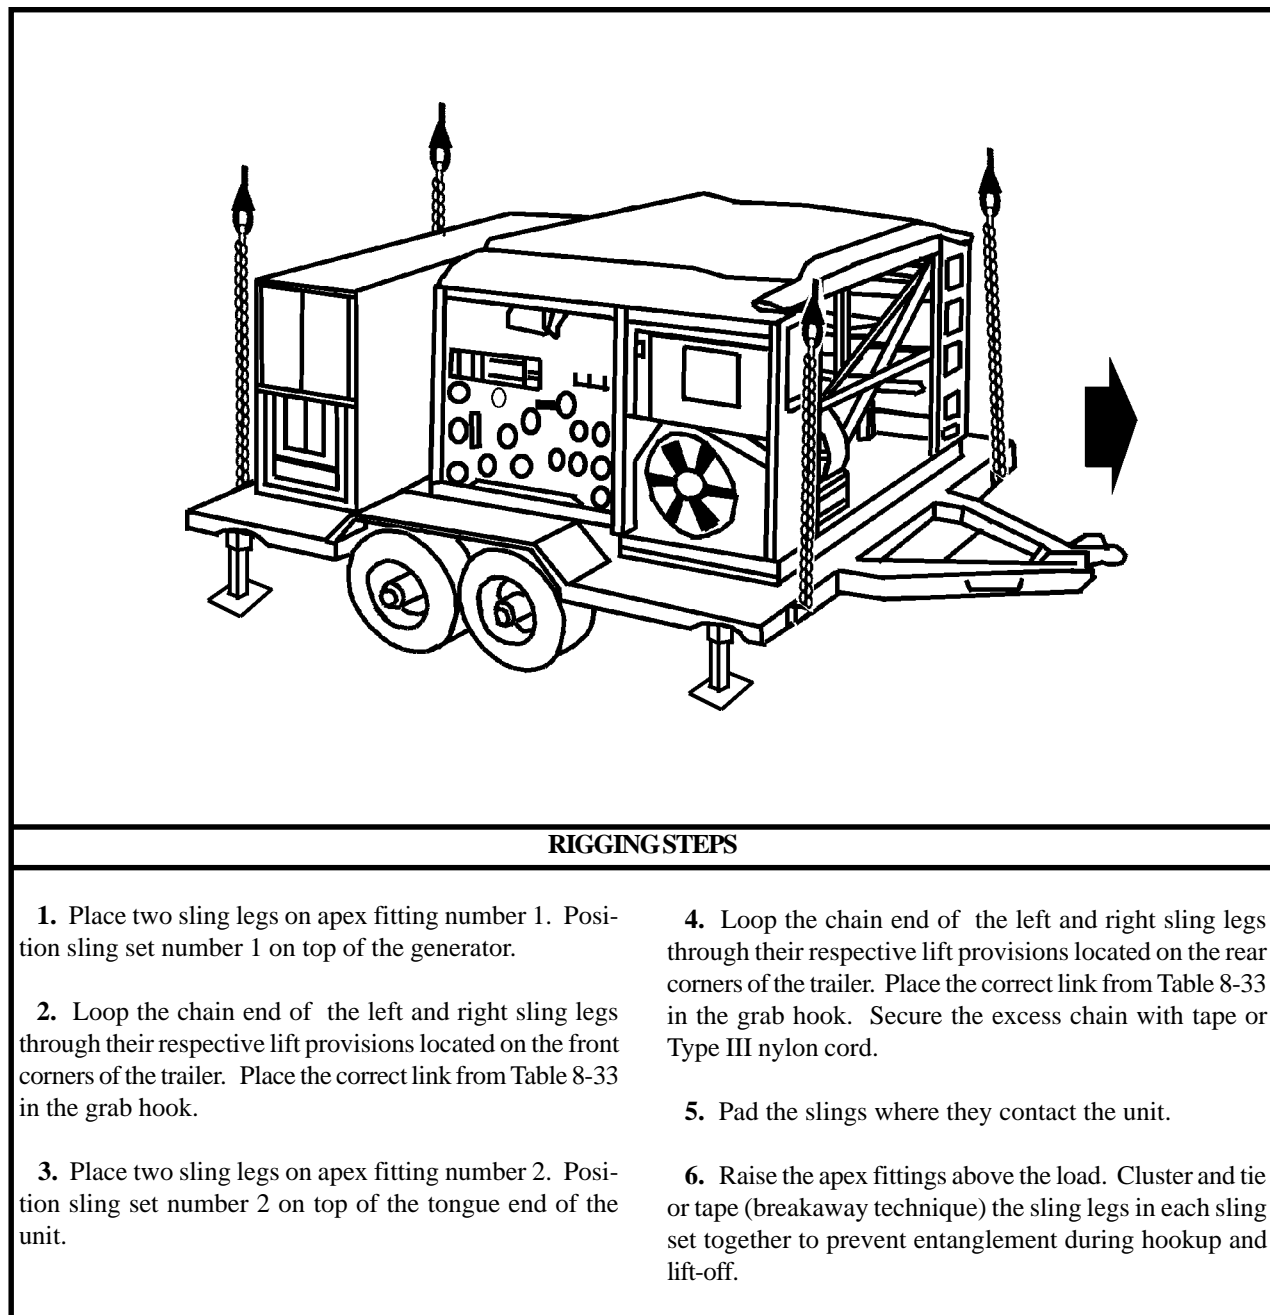

Figure 8-33. Water Purification Unit, Reverse Osmosis, Trailer Mounted
(2) **Rigging.** Rig the load according to the steps in Figure 8-33.
(4) **Derigging.** Derigging is the reverse of the preparation and rigging procedures in steps d (1) and d (2).